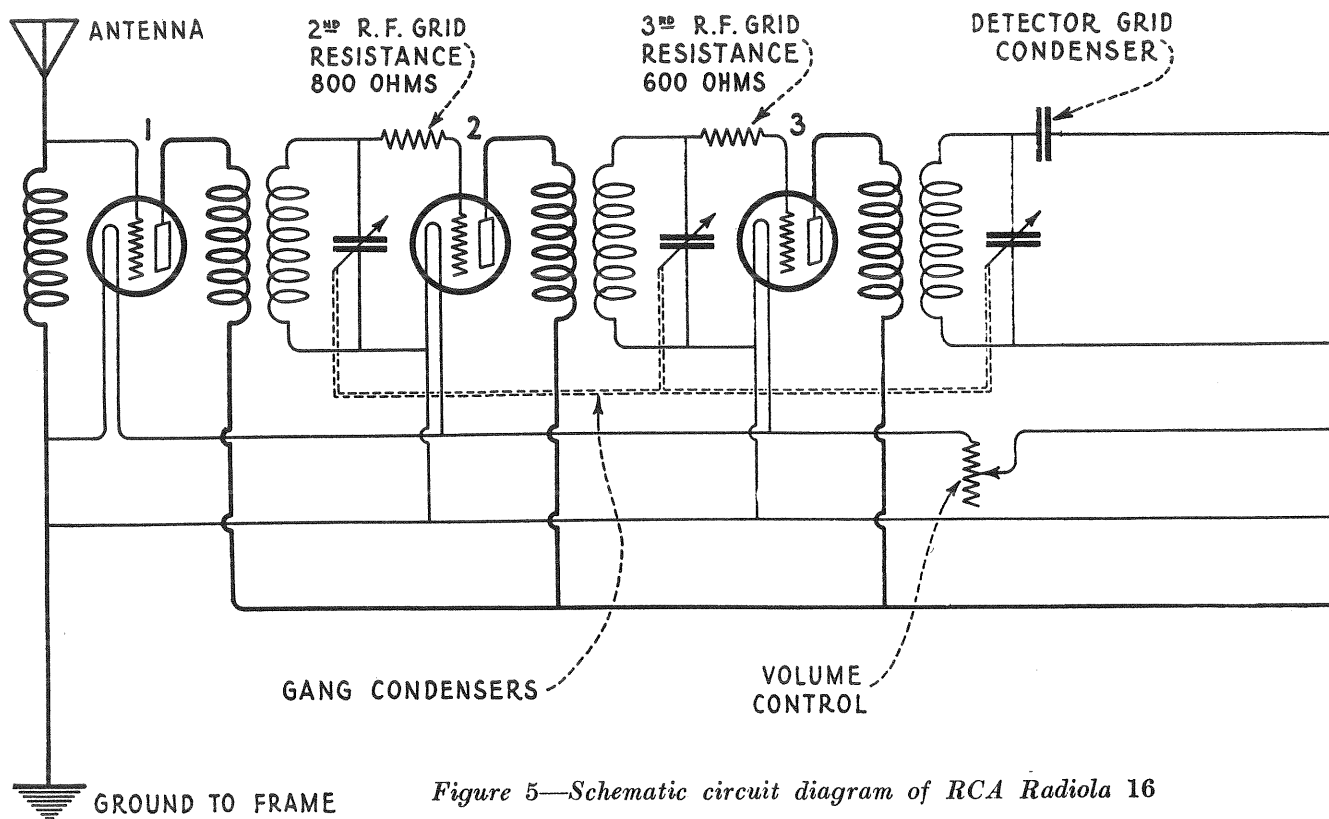

Figure 5—Schematic circuit diagram of RCA Radiola 16
Radiola 16 uses a plate voltage of 67 volts for the radio frequency amplifiers and it is important that this voltage is not exceeded. (See Figure 5). A higher voltage may cause it to oscillate and in all cases seriously affect its tone quality. It is imperative that, when using "B" battery eliminators having fixed 90-volt taps, provision be made for
3. Defective grid resistor in 2nd R. F. or 3rd R. F. (Figure 5).
The values of the various resistances are shown in the schematic diagram Figure 5. In some cases with certain antennas, the Radiola may oscillate even though everything is O. K. The remedy in this case is to interchange the Radiotrons or to reduce the volume control a slight amount.